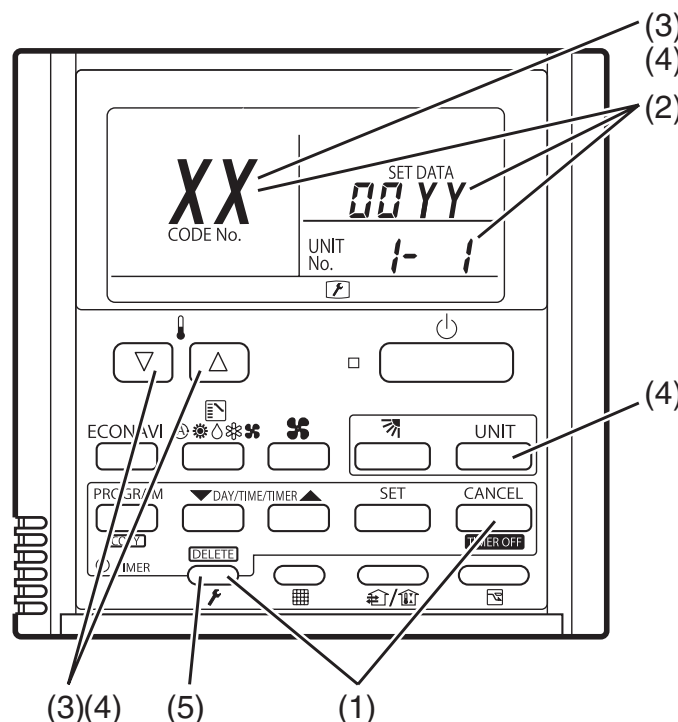

Fig. 7-10
- (1) Press and hold the  and  buttons simultaneously for 4 seconds or longer.
- (2) The unit No. "X-X" (main unit No.), item code "XX" (sensor address), and servicing monitor "00 YY" (sensor temperature) are displayed on the remote controller LCD display. (See Fig. 7-10 at right.)
- (3) Press the temperature setting  /  buttons and select the item code to the address of the sensor to monitor.
- (4) If group control is in effect, press the  button to select the unit to monitor.